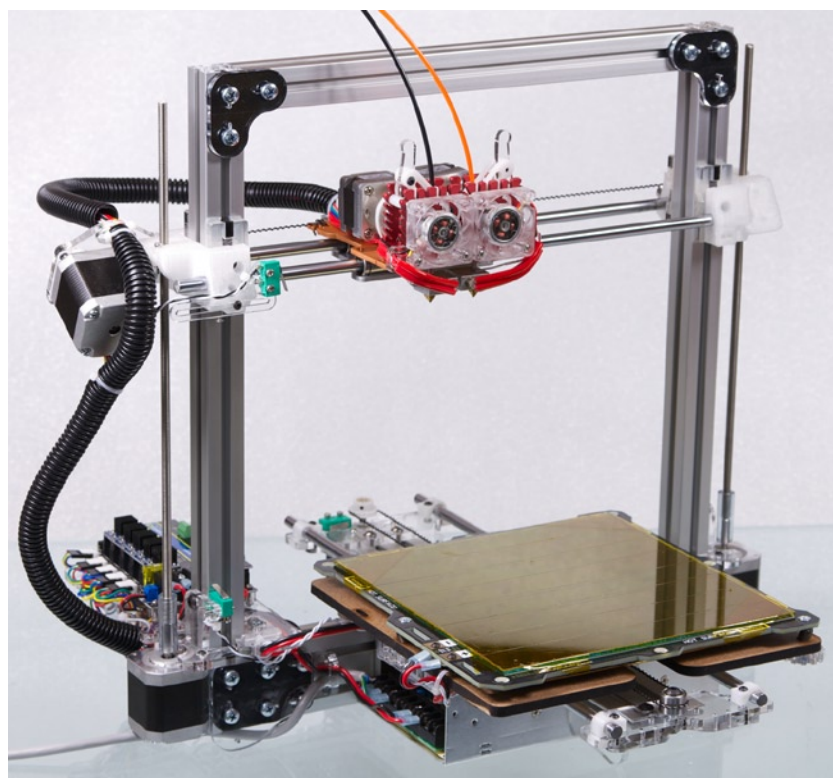
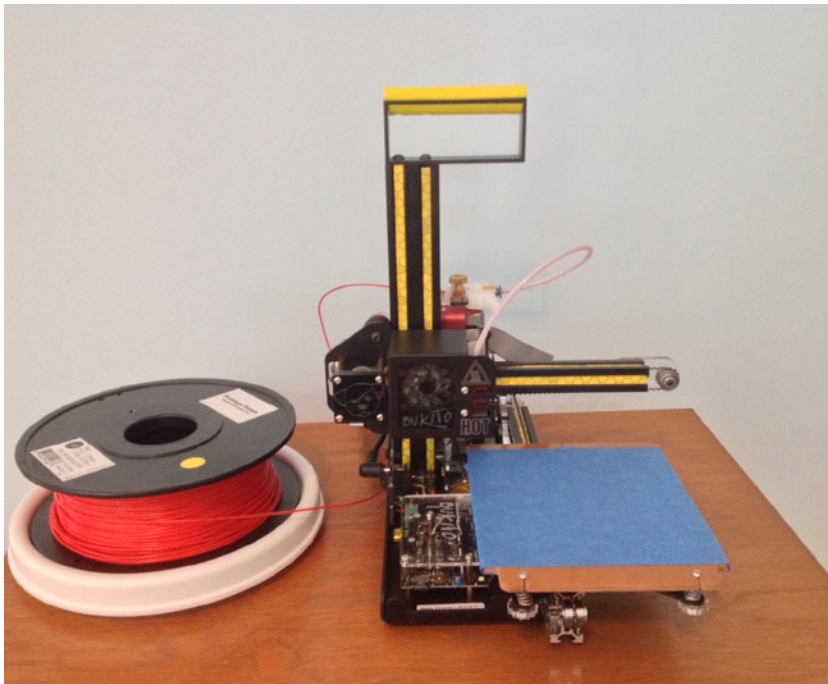

Figure 2-1. A typical Cartesian 3D printer (a Deezmaker Bukobot Duo). Photo courtesy of Deezmaker
Figure 2-2. A cantilevered, gantry-style Cartesian 3D printer (Deezmaker Bukito)
Chapter 9 discusses the process of integrating traditional manufacturing technologies like sand casting with 3D printing to create prototypes in metal more efficiently than is possible with traditional sculptural techniques. Small-run production also can benefit from using a few 3D-printed parts; many startup 3D printer companies use at least some 3D-printed parts for a while until their production runs reach a point where other processes make more sense. The large white parts in Figure 2-1, for example, are 3D printed.
Figure 2-1 shows a Deezmaker Bukobot Duo, a typical Cartesian, RepRap-heritage 3D printer. 3D printers define x , y , z axes. Typically, the z axis is the vertical one. In the case of the machine in Figure 2-1, the x axis direction is from left to right, and the y axis is toward and away from you.
Figure 2-1's design has a build platform (the square platform, where the 3D-printed object will build up) that moves in the y axis (forward and backward in the view in the figure). The build platform rests on the *Y carriage* which moves the platform along the y axis.
The mechanism partway up between the build platform and the top of the frame is the *X carriage*. The X carriage carries the *extruder*. The extruder in turn has several major components. The *extruder drive mechanism* drives the filament into the *hot end* where it is melted and extruded through the *nozzle*. In Figure 2-1's design, the extruder moves left to right to create the motion in the x direction. The whole X carriage is moved up and down by the motors and screw gears visible on either side to give motion in the z (vertical) direction. Or, to put it another way, the Z carriage is the entire x axis.
This design (called a *gantry*, an overhead axis supported on both ends) has the virtue of conceptual simplicity: if you want to move on the y axis, just one motor has to engage. (The y motor is at the back of the machine here and not visible under the build platform; the x motor is the motor at an angle on the left side of Figure 2-1). Different manufacturers make various choices about which axes to move and which parts to keep stationary. Many use the arrangement just described, but some others move either the extruder or the platform in both x and y directions. A Cartesian printer does not have to have a rectangular frame. An open, cantilevered, gantry-style frame (as shown in Figure 2-2) accomplishes the same thing. Because the frame needs to be very stiff to keep the precision of the print high, a gantry is best for smaller build area printers where the extruder is not suspended too far out on a beam.
Figure 2-2 shows a Deezmaker Bukito 3D printer, which has a 5×6-inch platform and a maximum height of 5 inches. (By contrast, the printer in Figure 2-1 was designed to print objects up to those that fit into an 8-inch cube.) This machine moves the extruder from right to left (x axis), moves the platform forward and back (y), and carries the whole x axis up and down to get the z (vertical) dimension.
The printer in Figure 2-1 has a heated platform covered with Kapton high-temperature tape. The one in Figure 2-2 is unheated and covered with blue painter's tape to allow printing of a plastic called PLA (polylactic acid). Chapter 7 details what type of build platform surface is necessary for different filament types.
The extruder is the part of the printer that melts and moves the filament. The extruder has several parts. One is an extruder drive mechanism, which is a motor and a mechanism that pushes the filament into the hot end. The hot end in turn is comprised of a heater, a nozzle, and a sensor (a thermistor) to sense how hot the bed is. You can see two extruders on the printer in Figure 2-1, which is a dual-extruder machine capable of printing objects out of two materials.
There are many different extruder designs, which fall into two major categories. A *direct-drive extruder* (like the one on the machine in Figure 2-1) has a motor and drive gear pushing the filament right next to the hot end. A Bowden extruder (like the one on the machine in Figure 2-2) has a drive gear that is separated from the hot end with a guide tube.
A stepper motor (Figure 2-4) is a precise, brushless, direct current (DC) motor that moves the shaft in predefined angular steps. Motors for 3D printers typically have 200 steps per revolution. The stepper motor is then coupled to a drive screw (like the z-axis motors for the printer in Figure 2-1) or to a belt or cable.
Filament needs to be carried somehow, too. Open source printers typically take filament from a spool, which needs to be mounted to turn freely somehow (the extruder drive gear drags the filament; the spool is not motorized). Figure 2-2 shows a typical rotating spool lazy susan.